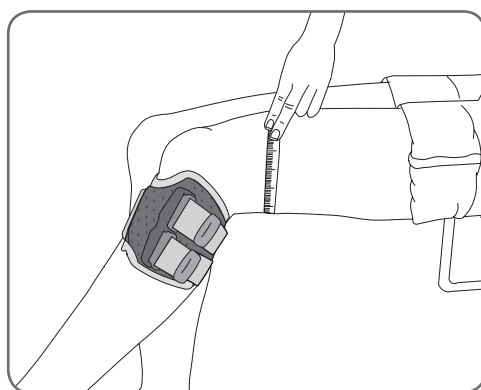

Figure 8-30: Measuring for the Thigh FS Cuff.
2. Using the tape measure, determine the thigh circumference three finger widths proximal from the patella. See Figure 8-30.